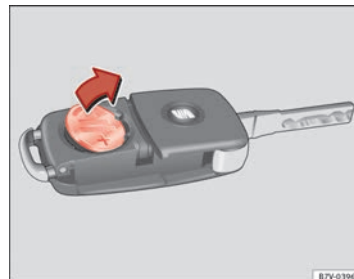

Fig. 44 Vehicle key: removing the battery ▶
- Extract the battery from the compartment using a suitable thin object ⇒ Fig. 44.
- Place the new battery in the compartment, pressing in the direction of the arrow as shown ⇒ Fig. 44 ⇒ ②.